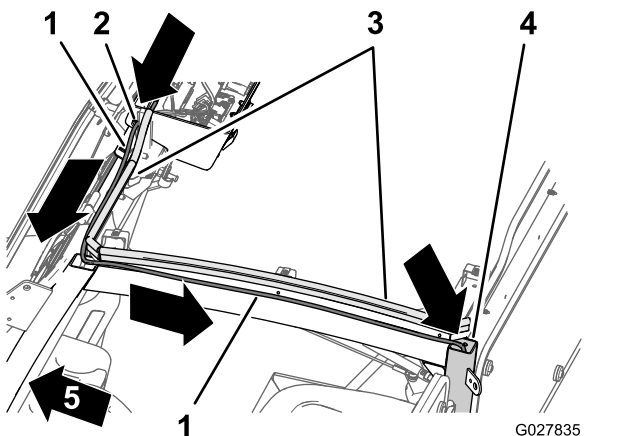

Figure 21
1. Route the hose to the left of the overhead console along the bulb seal at the front of the cab frame (Figure 21).
2. Route the hose rearward along the left frame channel of the cab (Figure 21).